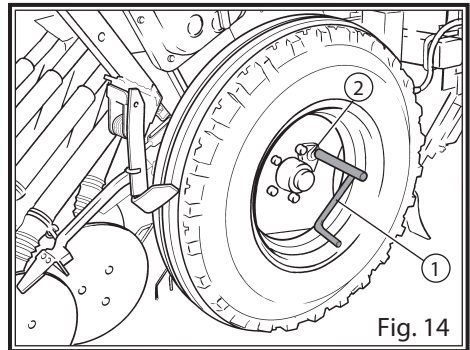

Fig. 14
**THIRD:** Raise the seed drill using the tractor until the wheels can turn freely. Place the calibration crank (1, fig. 14) in the bolt on right wheel (2, fig. 14) and turn it clockwise until seeds start to fall onto the calibration cup . At this moment, stop turning, put these seeds back inside the hopper and start turning the crank again to perform the real turns of the test.